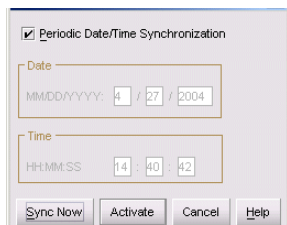

Figure 13: Configure Date and Time dialog box
1. Click **Date/Time** to display the Configure Date and Time dialog box, as shown in Figure 13.